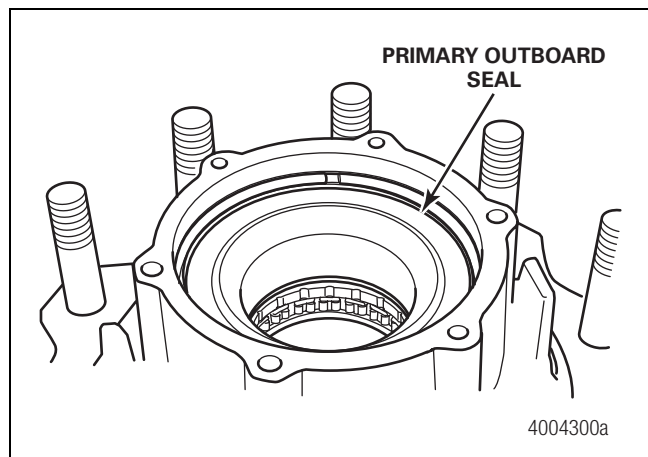

Figure 4.3
- The hub is a one-piece assembly containing non-serviceable bearings, primary seals and lubricant. Primary seals are located on the inboard and outboard sides of the hub. Figure 4.3.